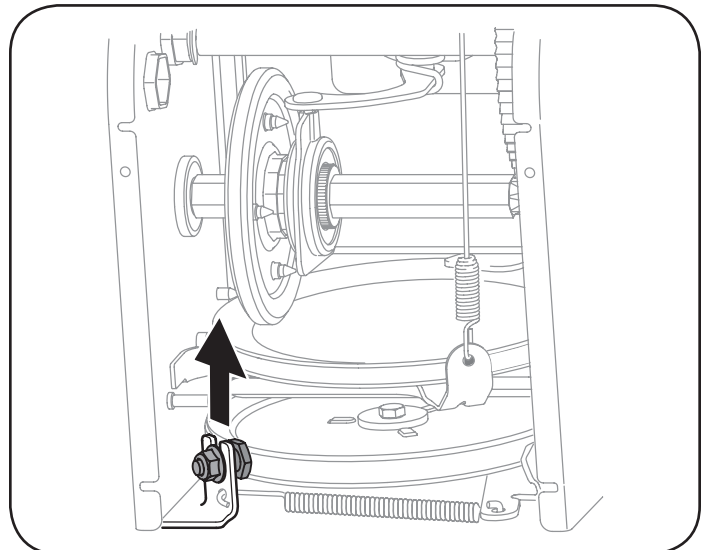
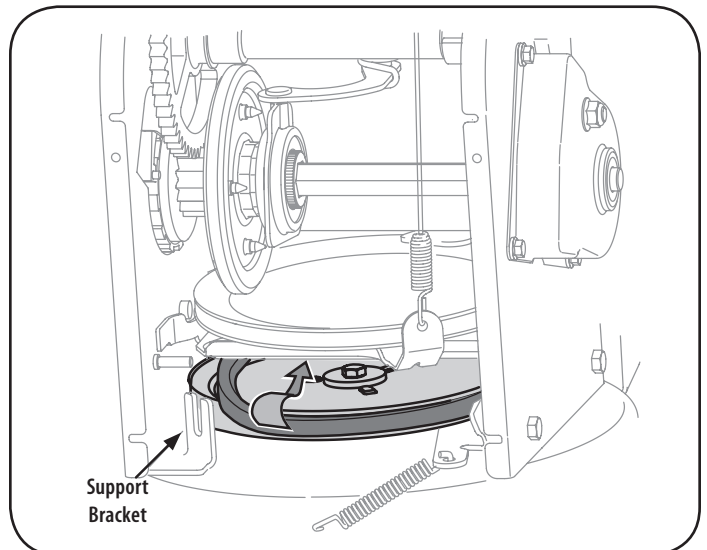

Figure 33
Figure 34
7. Loosen and remove the shoulder screw which acts as a belt keeper. Refer to Figure 33.
8. Remove the belt from around the auger pulley, and slip the belt between the support bracket and the auger pulley. See Figure 34.
**NOTE:** Do NOT forget to reinstall the shoulder screw and reconnect the spring to the frame after installing a replacement auger belt. See Figure 33 and Figure 34.